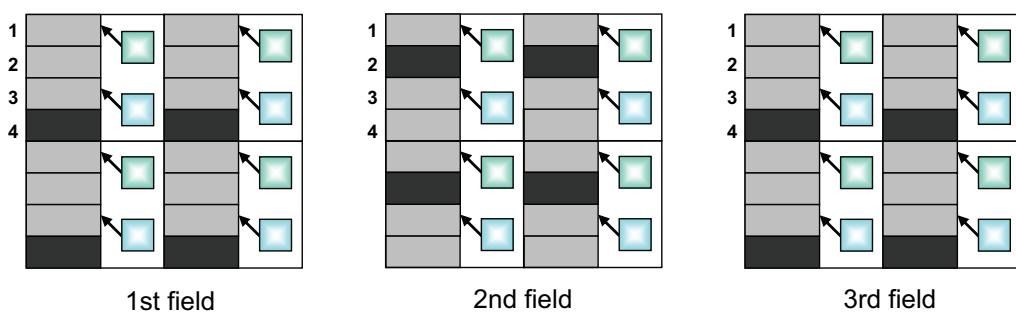

Figure 43: Format_7 Mode_0: 4-phase vertical shift register precharging (interlaced, field)
- see Figure 43: Format_7 Mode_0: 4-phase vertical shift register pre-charging \(interlaced, field\) on page 96 and